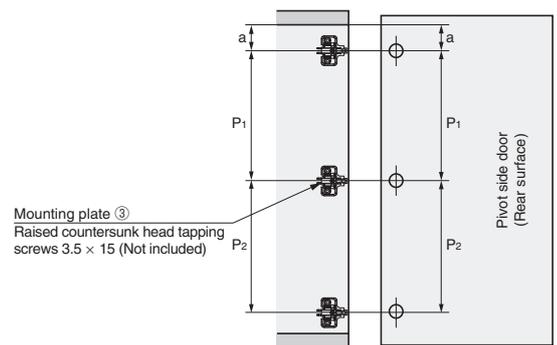

Fig.8. Fixing the mounting plates for Pivot side door
- step8 Remove the hinge pin of the CH75 center hinge separating the latter into two halves and install them to the outside and inside (hanging point side) doors respectively. The hinge half with a holder should be installed to the inside door (Fig. 8).